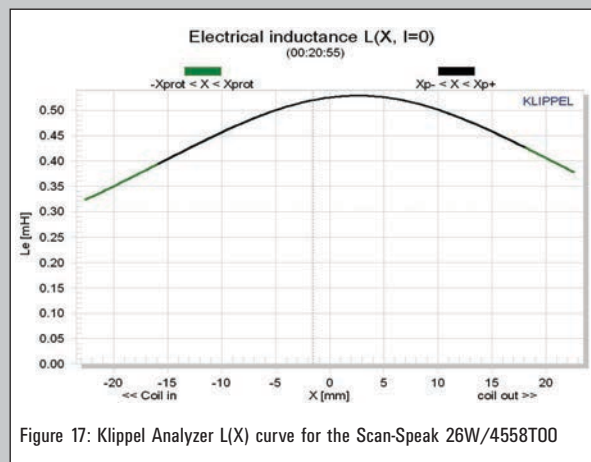

Figure 17: Klippel Analyzer L(X) curve for the Scan-Speak 26W/4558T00
**Figure 17** gives the inductance curves  $L(X)$  for the 26W. The curve illustrates a decreasing inductance as the coil moves inward, the result of the aluminum shorting sleeve in this motor system. Voice coil inductance varies only about 0.16 mH from  $X_{max}$  in to  $X_{max}$  out (0.43 mH to 0.59 mH), which is very good given the amount of wire in the voice coil.